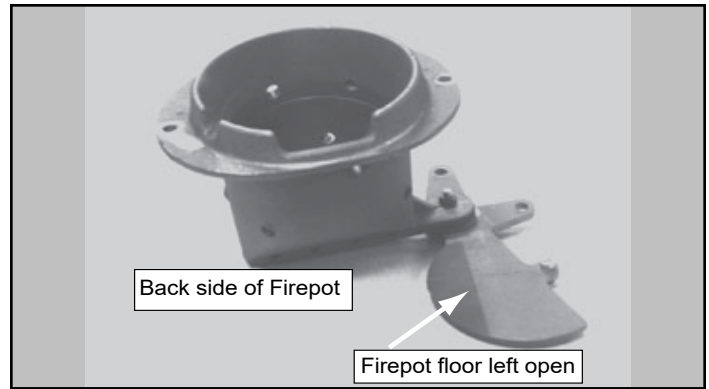

Figure 18.2
- c. The fire pot floor plate must be fully closed when finished (**Figure 18.2**).